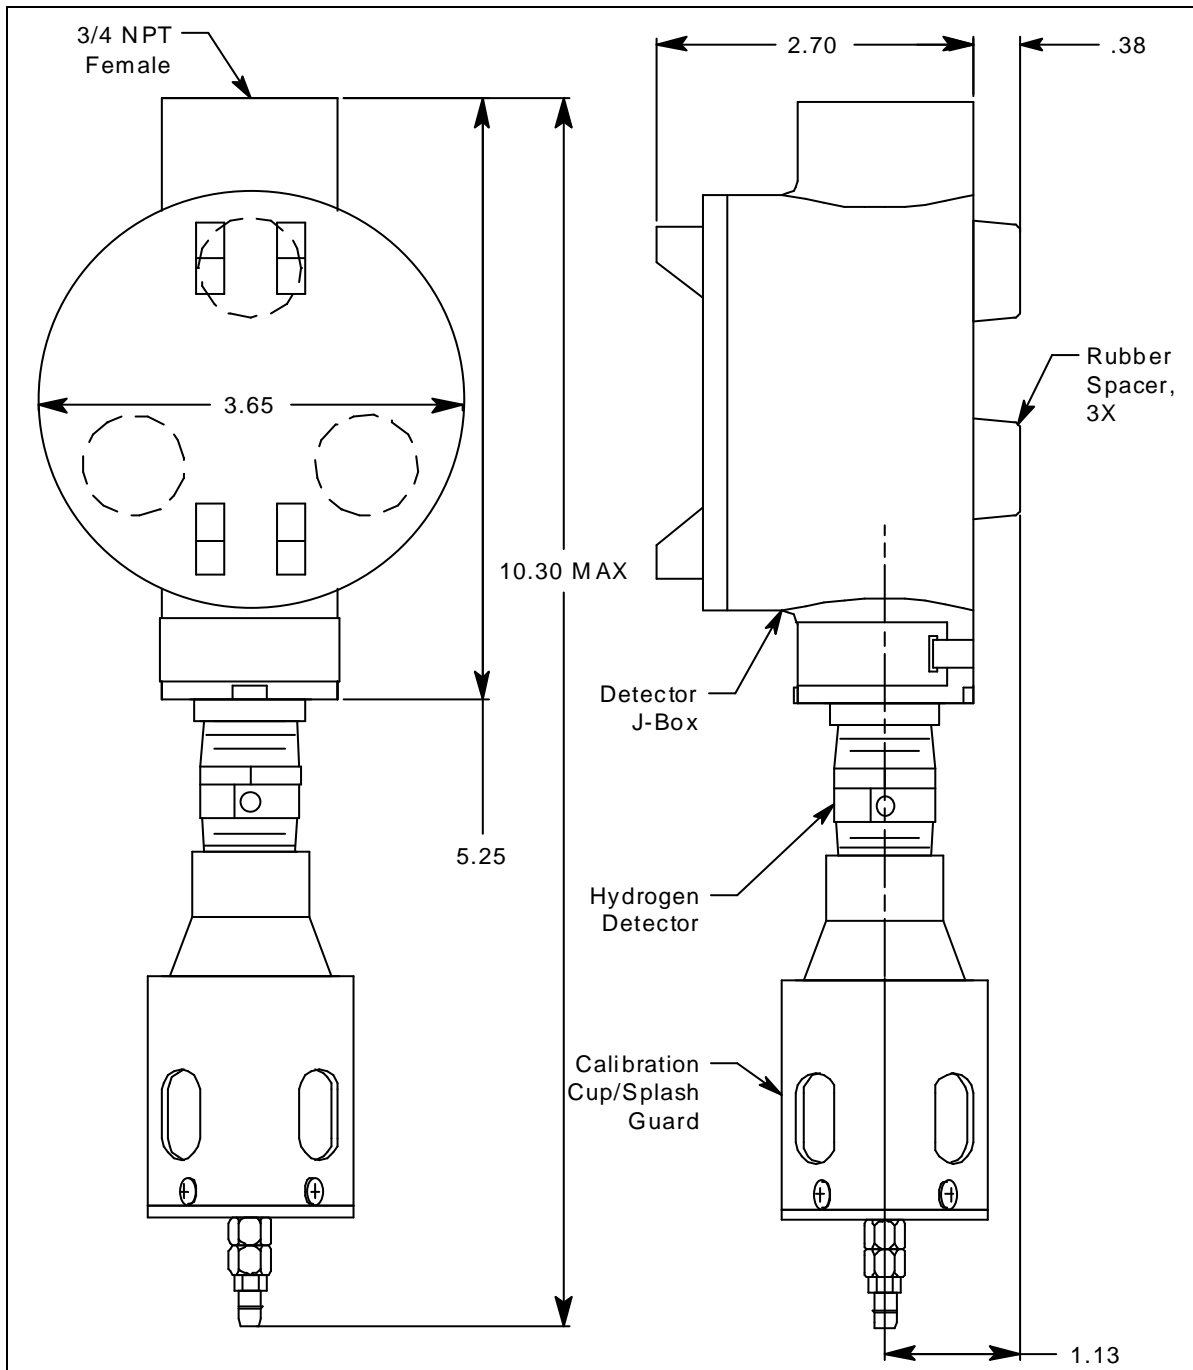

Figure 3: Hydrogen Transmitter Dimensions
2. At the monitoring site you select, hang or mount the detector junction box with the detector facing down (see Figure 3).